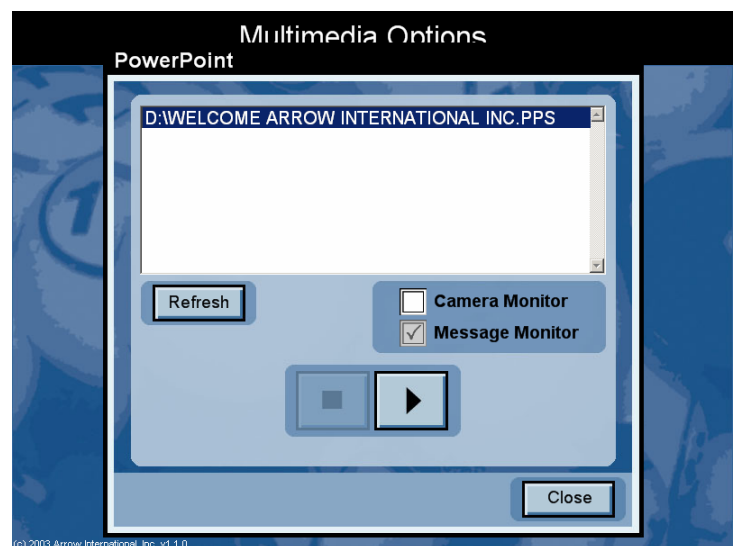

Figure 7.3
2. From the **Multi Media Options Screen**, touch the **Power Point** button. This will bring up the Power point window. (Figure 7.3)